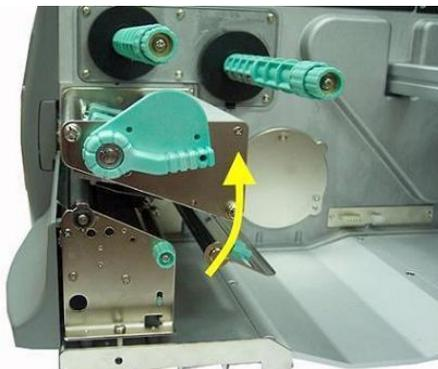

Fig. 5.2.1.h Swivel the printhead pressure lever upward (counterclockwise).
12. Slide the material guide to its outermost position. (Compare figure 5.2.1.i).